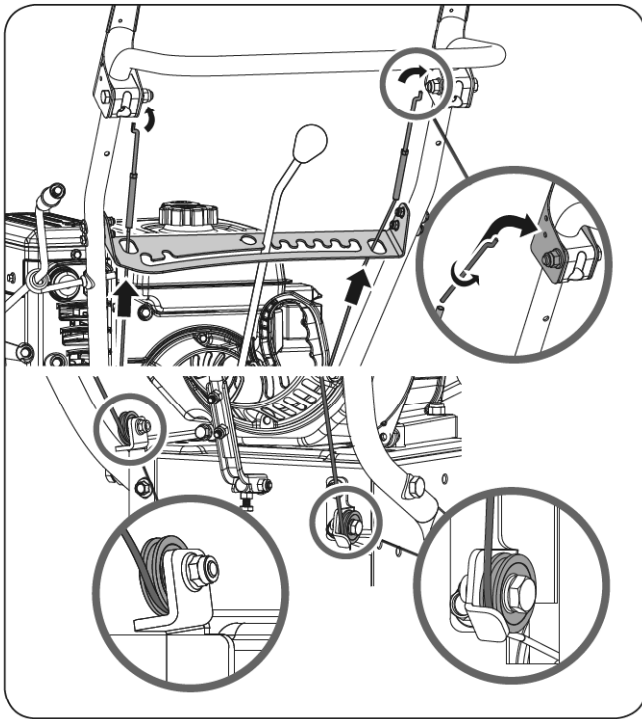

**Figure 6b**
4. Make sure the spiral at the bottom is fully engaging with the chute crank flange and tighten the two bolts on the chute bracket. (See **Figure 6b**)